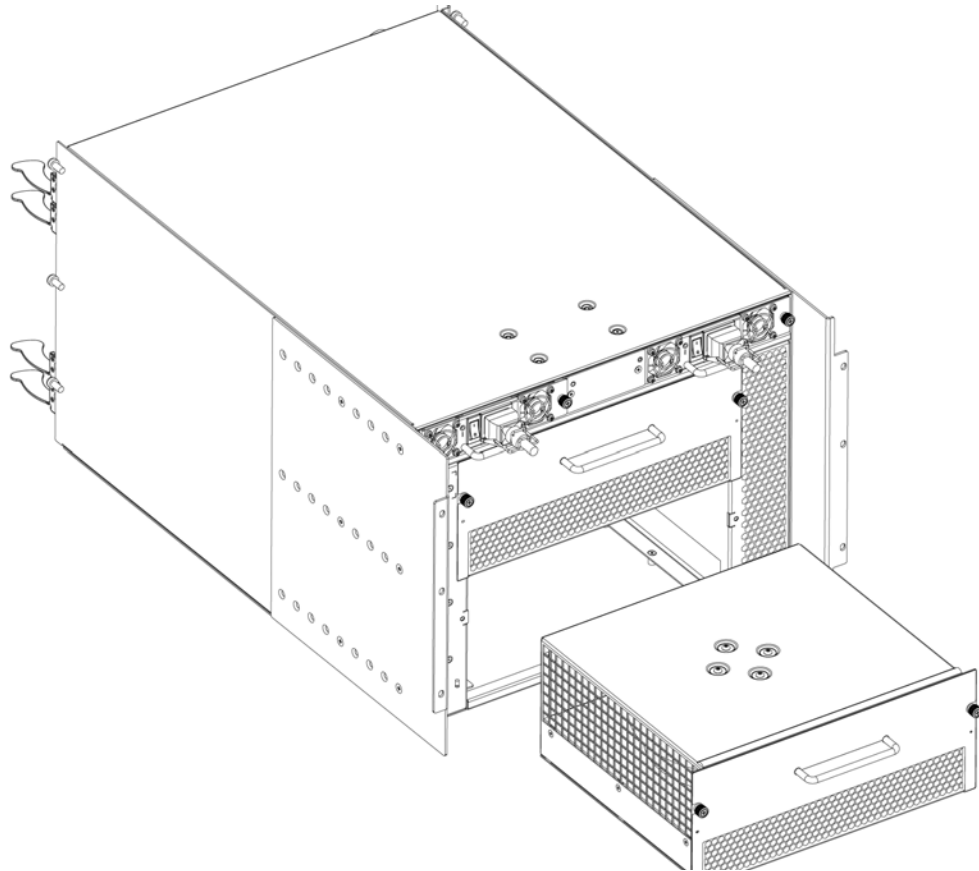

FIGURE 27 RRP: Blower assembly
2. Use the screwdriver to loosen the captive screws at the left and right of the blower assembly (Figure 27).